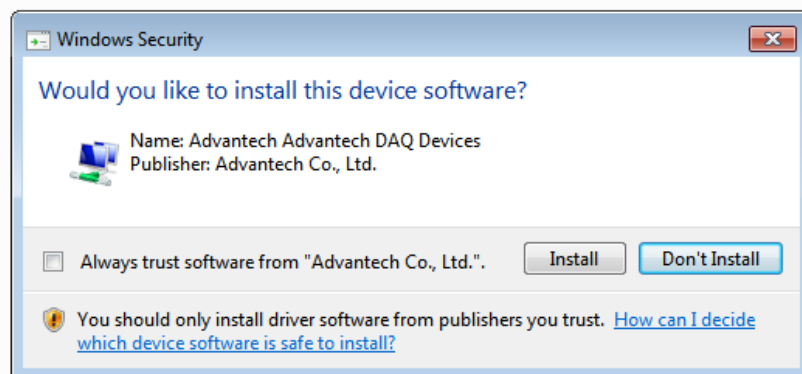

Figure 6 Setup Type Window
5. Choose the install path, make the driver component is checked and press 'Next'. A prompt from Windows will appear (Figure 6).